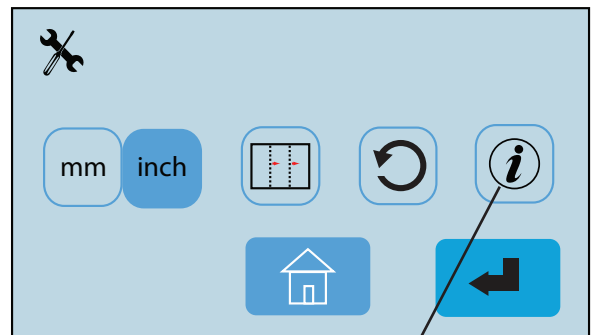
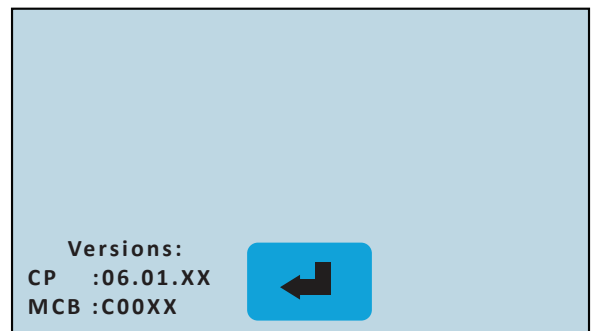

Fig. 32a
Fig. 32b
1. Press the Software Information Icon (Fig. 32a) to verify the current software revision. The software version information will be displayed (Fig. 32b). To return to the previous screen, press the  icon.